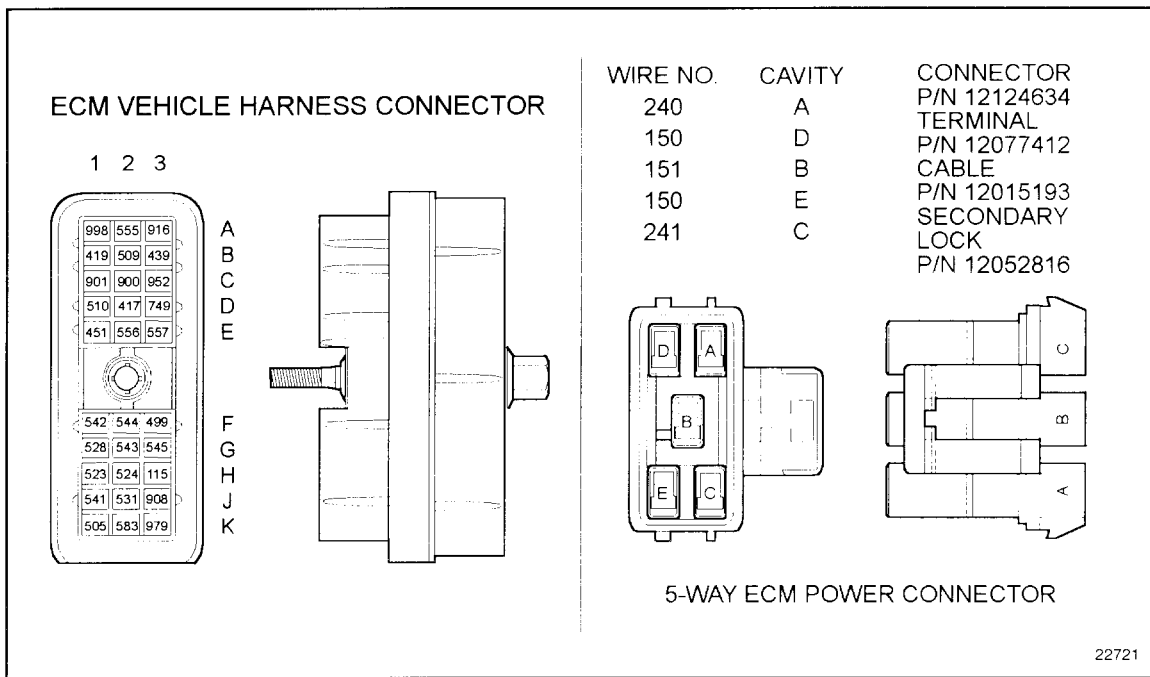

Figure 21-6 ECM Vehicle Harness Connector
1. Check terminals at the ECM harness connector (both ECM and harness side) for bent, corroded and unseated pins or sockets. See Figure 21-6.